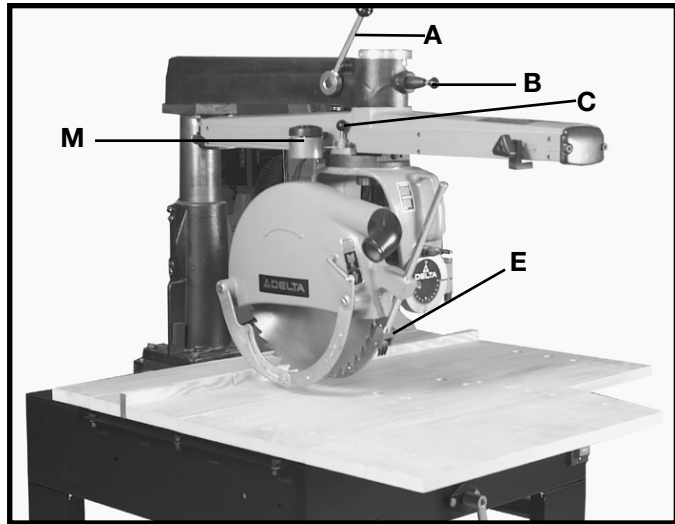

Fig. 2
A - TRACK-ARM CLAMP HANDLE Fig. 2. Controls swing of track-arm for all miter cutting operations. Locks track-arm at any angle for the full 180° rotation. To rotate track-arm, loosen clamp handle and rotate arm. The arm will stop at the 0° and 45° positions right and left. To move the arm past these points the track-arm index knob (B) must be pulled out.
B - TRACK-ARM INDEX KNOB Fig. 2. Locates 0° and 45° miter position, right and left, of the track-arm
C - YOKE INDEX KNOB Fig. 2. Locates each 90° position of the yoke for ripping or cross-cutting operations. When rotating the yoke, the yoke clamp handle (D) must first be loose.
E - ANTI-KICKBACK DEVICE Fig. 2. When ripping, the yoke is positioned and clamped so that the blade is parallel to the fence. The rear of the blade guard is lowered until it almost touches the workpiece. The anti-kickback rod is then lowered so that the fingers catch and hold the workpiece. Never rip from the anti-kickback end of the blade guard.
M - CUTTINGHEAD RETURN ATTACHMENT Fig. 2. Automatically returns the cuttinghead to the rear of the track-arm after completion of the cut.